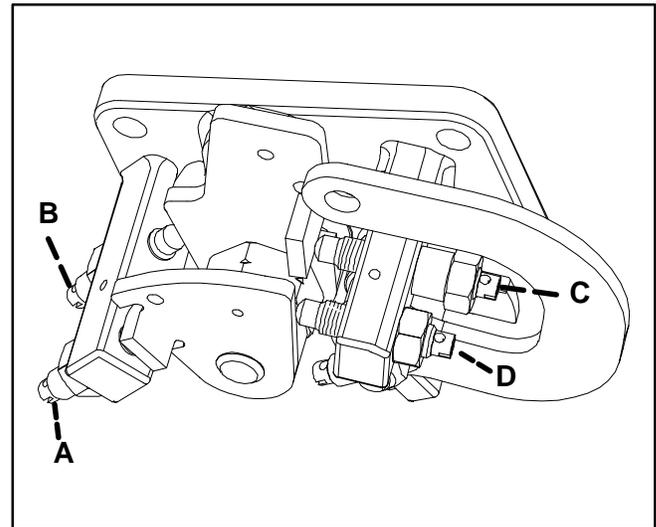

FIGURE 23. FREQUENCY ADJUSTMENT (EXCEPT MDKAL SPEC A)
2. Back off screw **A** (Figure 23) to free the front (60 Hz) lever and prevent overspeed shutdown, snug screw **D** and set the locknuts.
1. First adjust genset frequency to 50 Hz if the adjustment seal on screw **B** (Figure 23) is broken. Snug screw **C** if necessary.